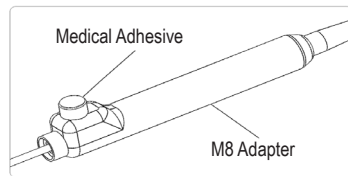

Figure 3: Medical adhesive covering the septum seal plug.
11. Apply a medical adhesive (e.g. Dow Corning Silastic® Medical Adhesive Silicone, Type-A Sterile, as available from Boston Scientific, part no. DB-4320) to coat and seal the top of the set screw port (Figure 3).